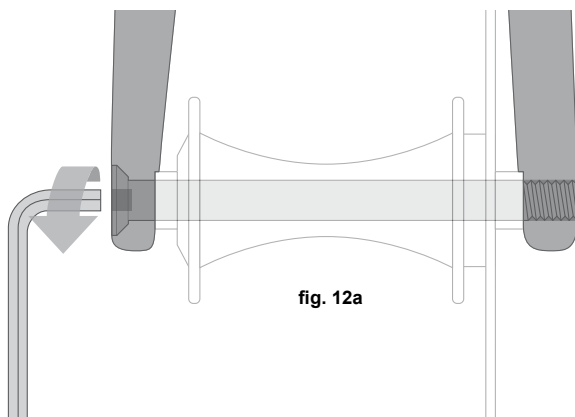
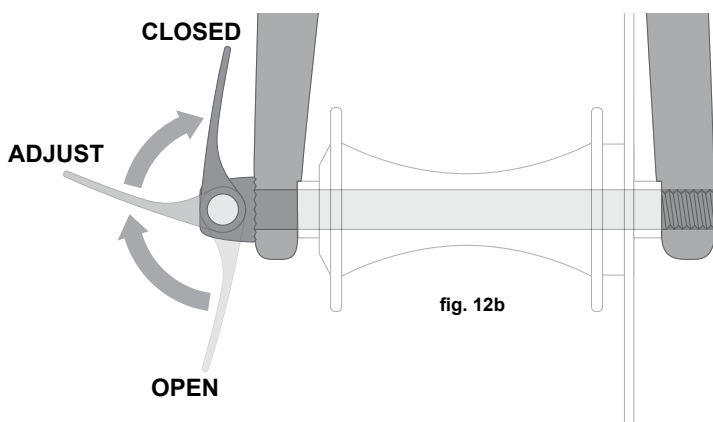

fig. 12a
fig. 12b
a. Adjusting the thru-axle mechanism (fig. 12a & 12b)
The thru-axle is inserted through the unthreaded hole in the frame or fork's dropout, through the wheel hub, and is threaded directly into the opposing dropout by tightening the thru-axle. Common installation methods may use an Allen hex key (fig. 12a) or a cam lever (fig. 12b). Please refer to the manufacturer's instructions for specific information about your thru-axle's operation, including correct torque specifications or lever adjustment information.
(4) If your bike has a thru-axle front wheel mounting system (**figs. 12a & 12b**), loosen and remove the thru-axle according to the manufacturer's instructions, then remove the front wheel.
(c) With a thru-axle system, tighten the thru-axle (**figs. 12a & 12b**) according to the manufacturer's instructions.
(5) If your bike has a thru-axle rear wheel mounting system (**figs. 12a & 12b**), loosen and remove the thru-axle according to the manufacturer's instructions.
(6) Push the rear wheel forward far enough to be able to remove the chain from the rear sprocket, then lift the rear wheel off the ground a few inches and remove it from the rear dropouts.